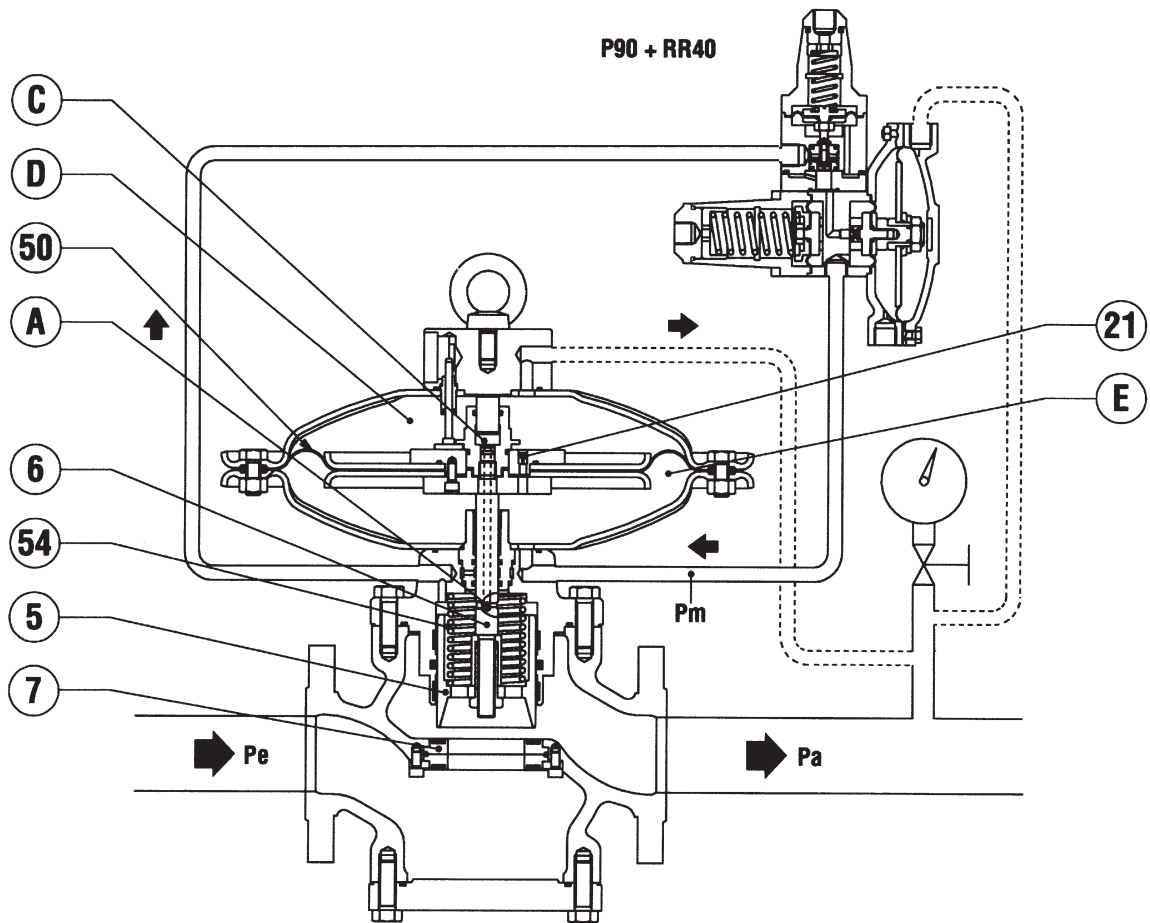

Fig. 1
1.2.1 REGULATOR WITH PILOT P...+RR40 (fig. 1)
The set-point can be changed by turning the adjustment ring 11; clockwise rotation increases P_m and therefore the regulated pressure, P_a ; the opposite occurs when the ring is turned anticlockwise. If, for example, the downstream pressure, P_a , drops during operation (because of an increase in the requested flow rate or a drop in the upstream pressure) an imbalance occurs in the mobile assembly 16 of the pilot, which is displaced to increase the opening of the obturator 17. As a result, the motorisation pressure value, P_m , increases and, by acting in the chamber E under the diaphragm 50 (fig. 1), causes the obturator 5 to move upwards and therefore an increase in the opening of the regulator until the set-point of the regulated pressure is restored. Vice versa, when